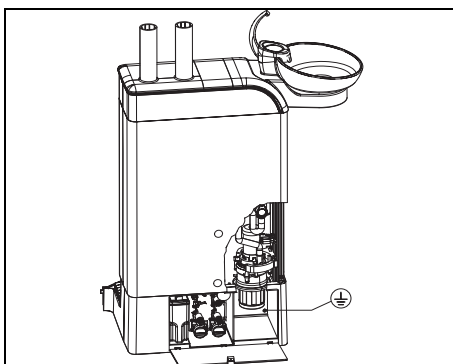

Fig. 3-8 Measurement point in the water unit
- screw behind the amalgam separator rotor (open cover, Figure 3-8)